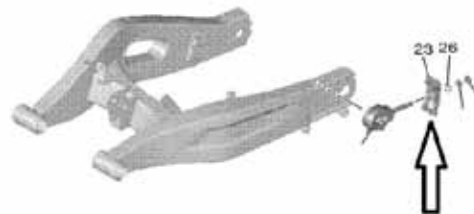

FIG 1
3. Remove stock blocks and axle flanges . (see fig 1)